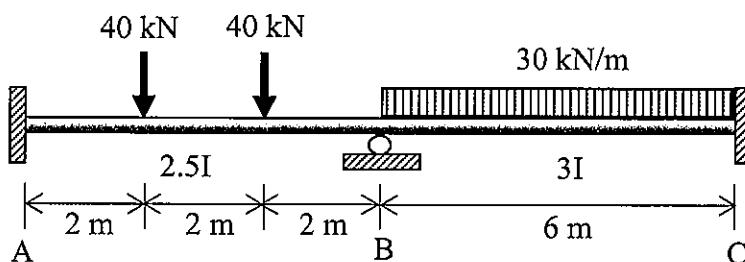

Figure B3(a) / Rajah B3(a)
- CLO1 (a) A continuous beam is subjected to a point load and uniformly distribution load as shown in Figure B3(a). Identify Fixed End Moment value for each member of the beam.
- CLO1 (b) Identify the value of stiffness and distribution factor of the beam in Figure B3(a).